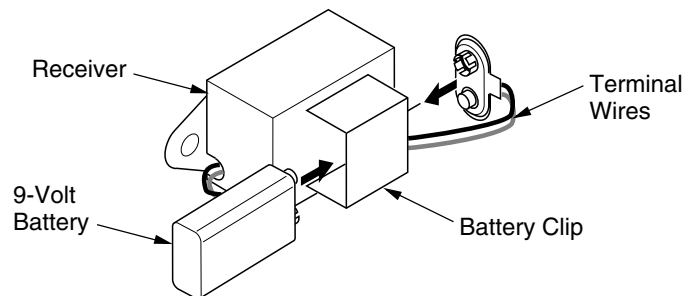

Figure 36 - Installing Battery in Receiver
- Install battery into receiver battery clip and connect to terminals (see Figure 36).